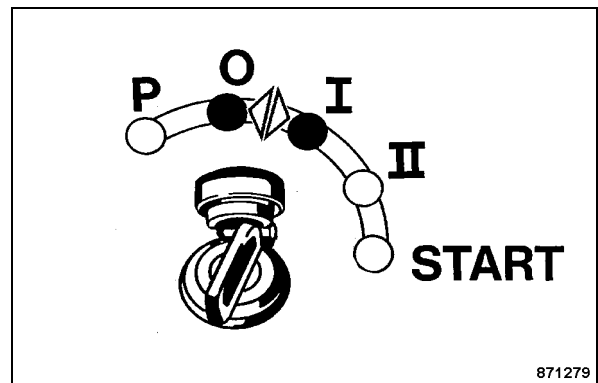

Fig. 83
- Switch the ignition off and on again (Fig. 83).